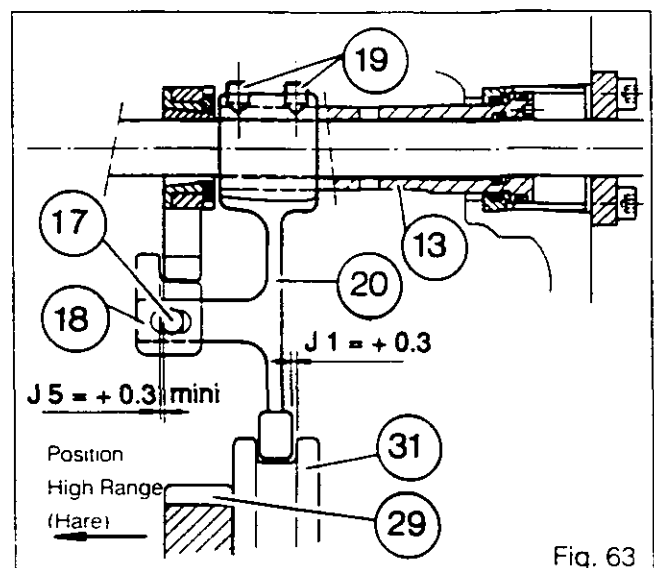

Fig. 63
219. Keep the coupler in contact with the high range gear (29) (Fig.63) (3rd gear on the 4 x 2 gearbox - 4th gear on the 4 x 4 box).
220. Adjust the position of the fork (20) by turning the two adjusting screws (19) after cleaning them with a solvent and lightly coating them with Loctite 221 to obtain a play of  $J1 = 0.3 \text{ mm}$  between the rear face of the plate and the coupler (Figs. 63 & 64).
229. Equalize the J5 and J6 clearances (minimum 0.3 mm) between the slider and the lock in the High and Low range positions (Figs.63, 65, 69 and 70).